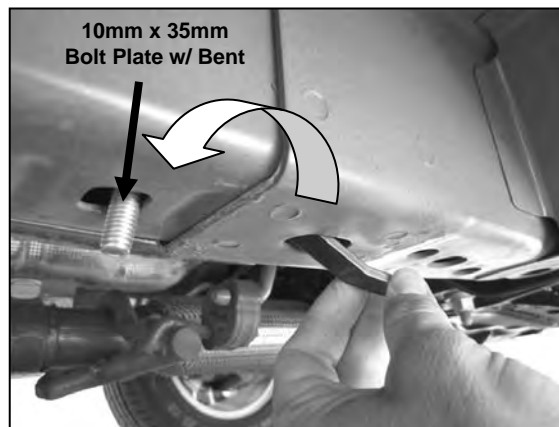

Figure 3
- Insert (1) 10mm x 35mm Bolt Plate w/ Bent into factory hole on the frame (**Figure 3**).